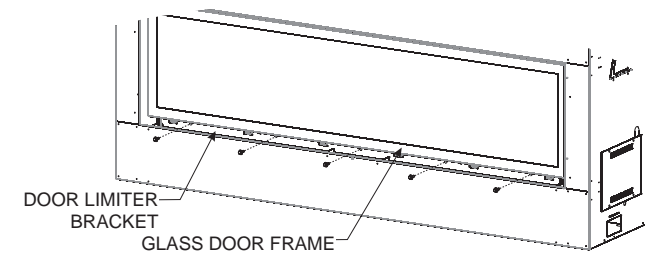

Figure 99
Before the Glass Door can be removed, a Door Limiter Bracket must be removed. Using a 5/16 inch hex nut driver, remove (3) #10-24 x 3/8 inch screws that retain the Limiter Bracket to the bottom flange of the Glass Door frame, and set the bracket aside. See Figures 99 and 100.
Refer to **Figures 99 and 100** to install the glass door assembly. Because of the width of the door assembly, it is recommended that two people install it. Hold the door at an angle so the bottom is about 8 inches from the fireplace face. Engage the top slots in to door frame with the tabs located at the top of the firebox. Gently pivot the door inward to align the four bullet catches across the bottom of the door frame. Once the bullet pins are aligned with the spring catches on the door frame, push the bottom of the door inward to engage the spring catches with the bullet pins.